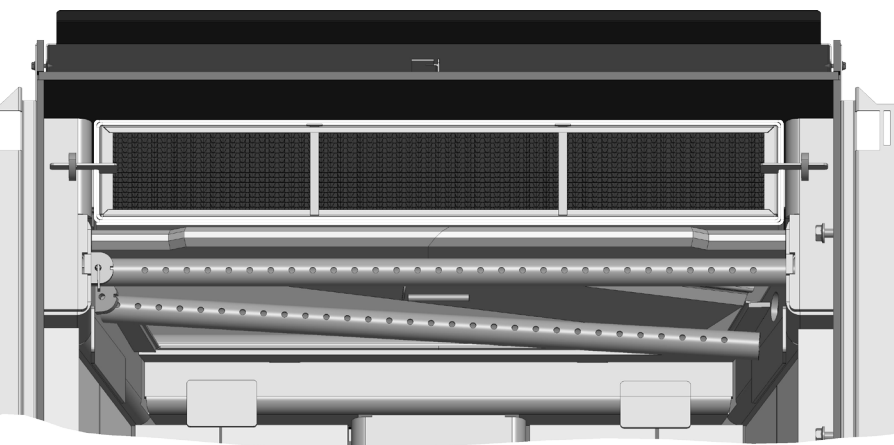

Figure 5.9. Remove the air tube.
3. Slide rear tube to the right, pull left side of tube forward at the same time moving tube to the left and remove tube from firebox. Fig 5.9.